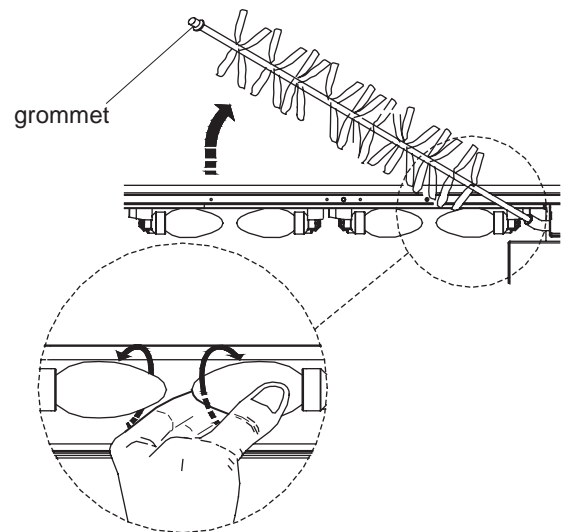

Fig. 8
4. For access to the bulbs, carefully rotate the flexible rotisserie out of position ensuring that the rubber grommet is not lost – see Fig. 8.
5. Unscrew the defective lamp anti-clockwise. Replace with a 230V, 60W E14 SES lamp, do not over tighten (see Fig. 8).